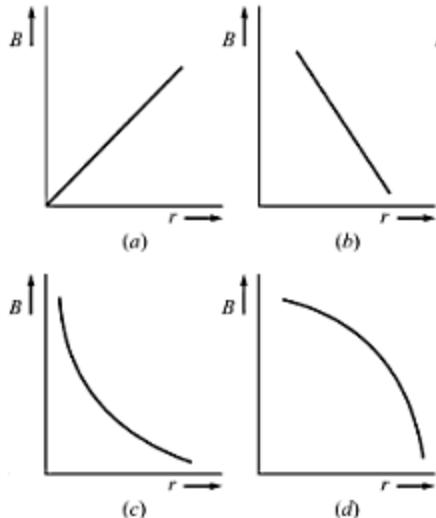

Fig. 5.22
7. Which of the graphs in Fig. 5.22 shows variation of magnetic field  $B$  with distance  $r$  from a long straight wire carrying a current?